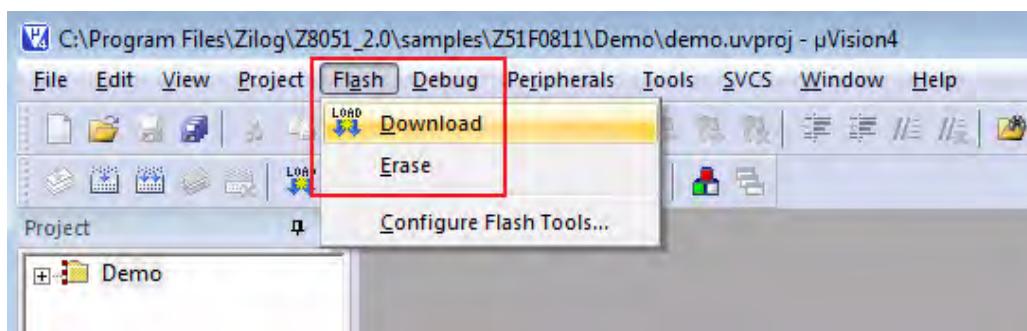

Figure 33. The Keil IDE Flash Menu
5. From the **Flash** menu of the Keil IDE (see Figure 33), select either of the following options: